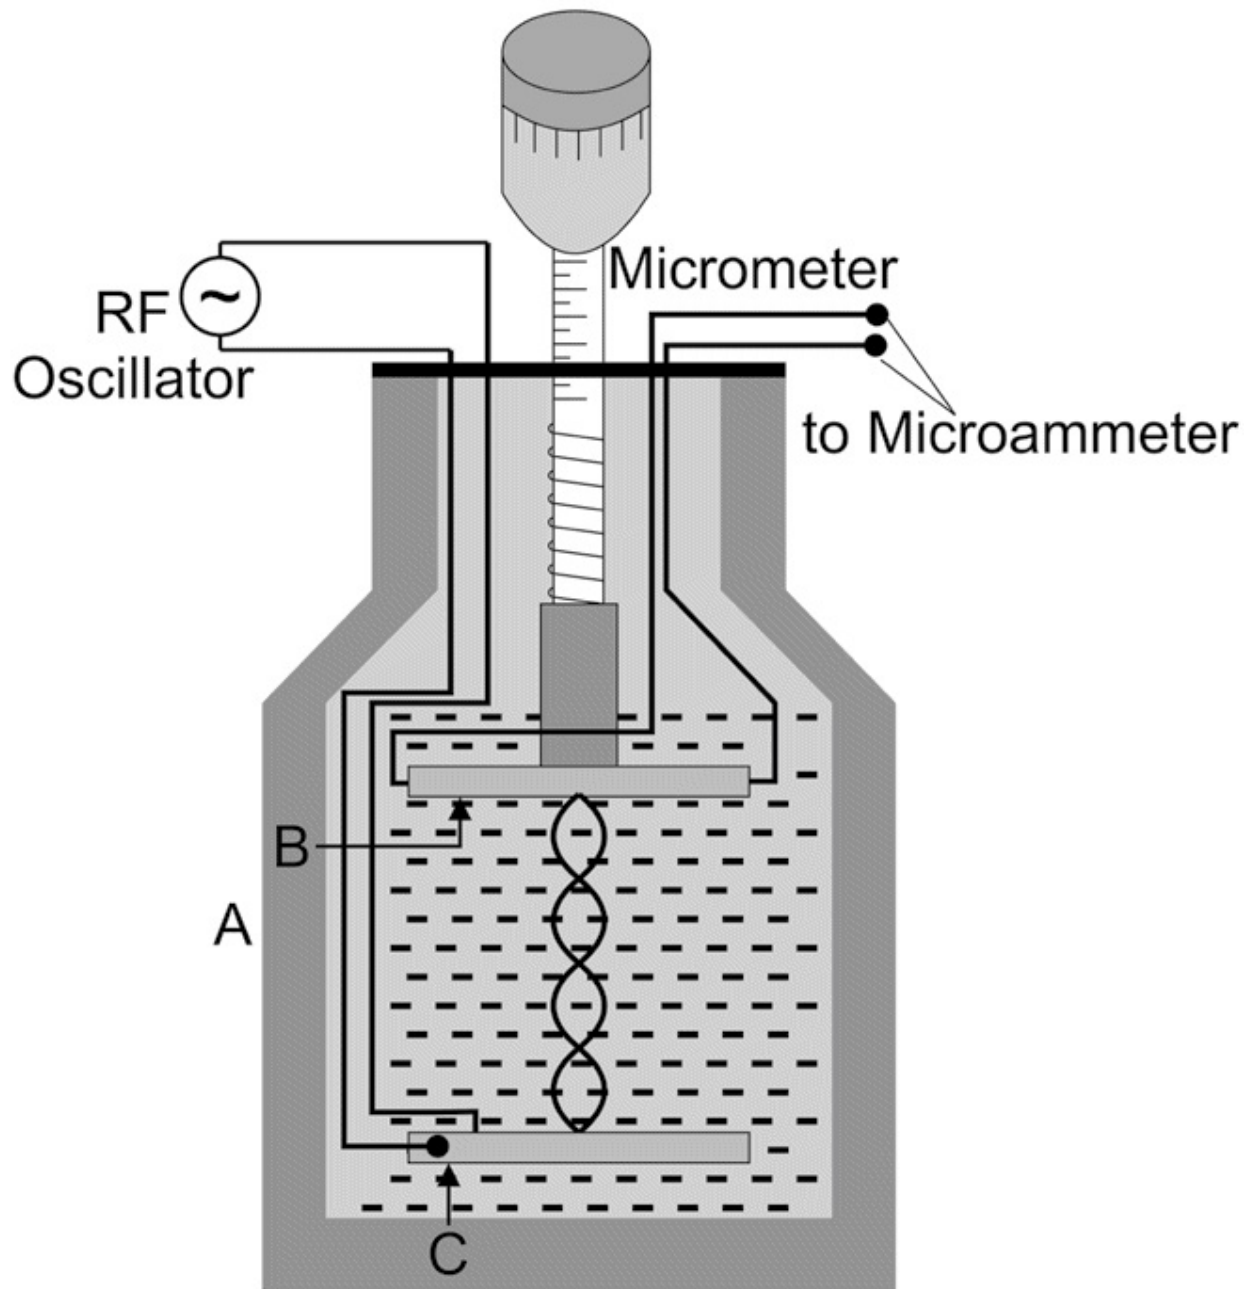

Fig P2.1
1. Set up the apparatus as shown in Fig. P2.1